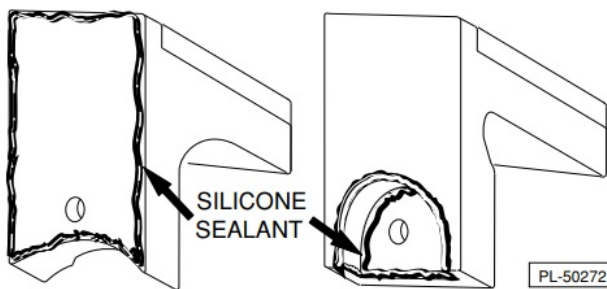

Fig. 4
3. Draw a bead of silicone sealant (supplied) around the recessed area and on top of the bracket (Fig. 4).